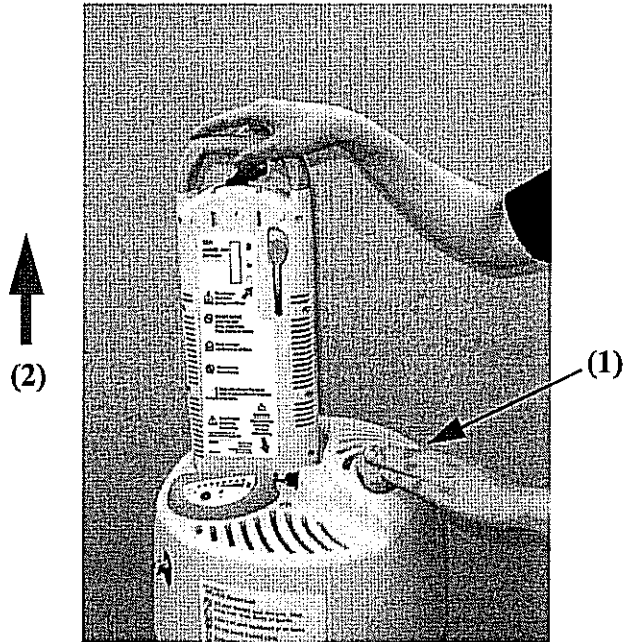

Figure 3: Disengaging the H850 Portable
8. Disengage the H850 Portable from the Reservoir by holding the carrying handle and depressing the release button (Figure 3). Always hold the H850 Portable with at least one hand when attempting to disengage it.